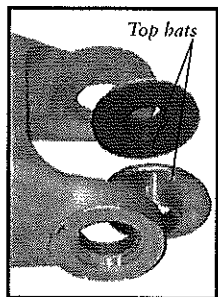

Fig. 32
2. Remove the "top hat" bearings (Fig. 32) from the main frame and swingarm. These are also installed with Loktite, so again tap them out with a hammer and an 11mm socket. Avoid damage to the frame or swingarm by properly supporting and padding each as you drive out the bearings.
The Q-Pro Carbon frame and Aeros fork use a proprietary system. At this time, only the supplied parts are compatible with this system. No other frame, fork, or lower headset system can be substituted for parts in this system as supplied. The upper bearing uses a standard 1 1/8" Aheadset system (Fig. 32), from which many substitutions are available as aftermarket parts.